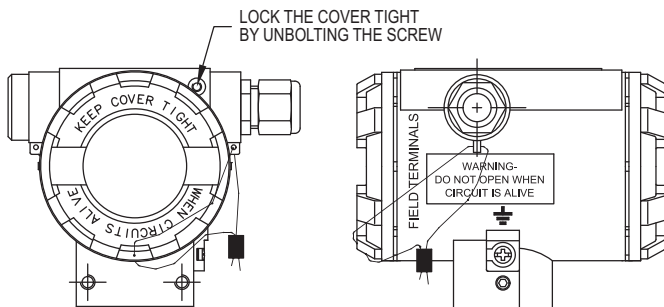

Figure 3: How to lock the casing of Series 3400 and 3500 transmitters
**CAUTION** Do not remove covers to change display or backlight while explosive atmosphere is present. A method to block the cover is shown in Appendix I Figure 3.